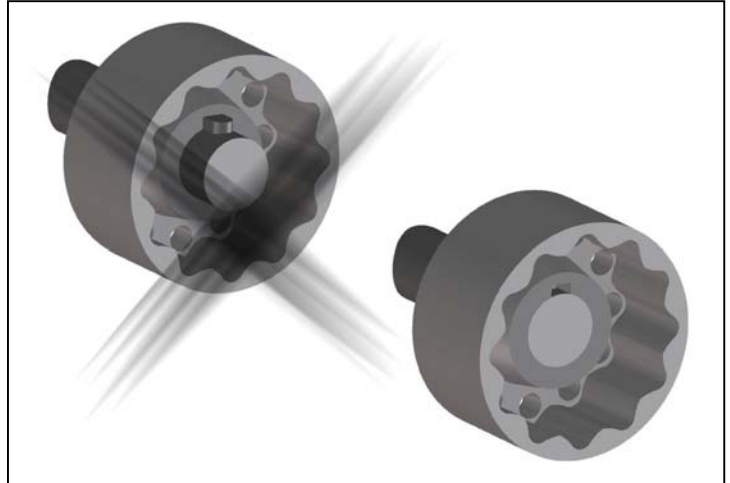

Fig. 4
- Mount the hub and the housing so that the shaft ends are flush with the interior borehole opening (Figure 4).